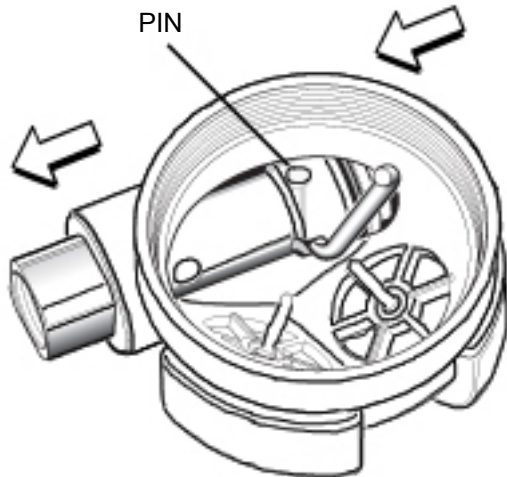

Figure 13 - Removal of lever
1. While holding the hex nut (27) of the second stage secure with a 13/16" open-end wrench, apply an 11/16" open-end wrench to the female fitting of the IP hose. Turn the fitting counterclockwise to loosen and remove the hose from the second stage. Remove the O-ring (28) from the hose and discard.
2. Remove the mouthpiece cover (18), if present, and carefully snip the plastic mouthpiece clamp (17) to remove the mouthpiece (19) from the box bottom (22). Inspect the mouthpiece to ensure it is free of any tears or cuts that may cause leakage of water into the second stage or other discomfort. Discard the mouthpiece or set it aside to be reused, depending on its condition.
3. Turn the purge guard (1) counterclockwise by hand to loosen and remove from the second stage box bottom (22).
7. Apply a 5/32" hex key to the cap plug (9) and turn it counterclockwise to loosen and remove. Remove the O-ring (10) from either the cap plug or the box bottom, and discard.
8. Apply a 1/8" blade screwdriver to the slotted head of the black adjustment screw (11) and turn it counterclockwise to loosen and remove. Remove the small, red washer (12) from the stem of the adjustment screw. Inspect these items for any signs of damage. If found, discard the damaged part and do not reuse.
9. Remove the poppet spring (13), and examine it closely through a magnifier. Discard if it is found to be damaged or corroded.
10. Before proceeding, stand the lever (5) up and out of the box bottom, and ensure that it is kept standing while performing the following step.
11. While holding the box bottom secure, press the male threaded inlet side of the valve body (23) into the box bottom until it stops, exposing the recessed head of the lever retaining pin (6). (See Figure 13). Turn the box bottom over to drop out the pin, and then pull the lever straight down and out of the valve body to remove. Inspect the lever and pin for any signs of bending, distortion, or excessive wear of the plating. If any of these conditions are found, discard and do not reuse.